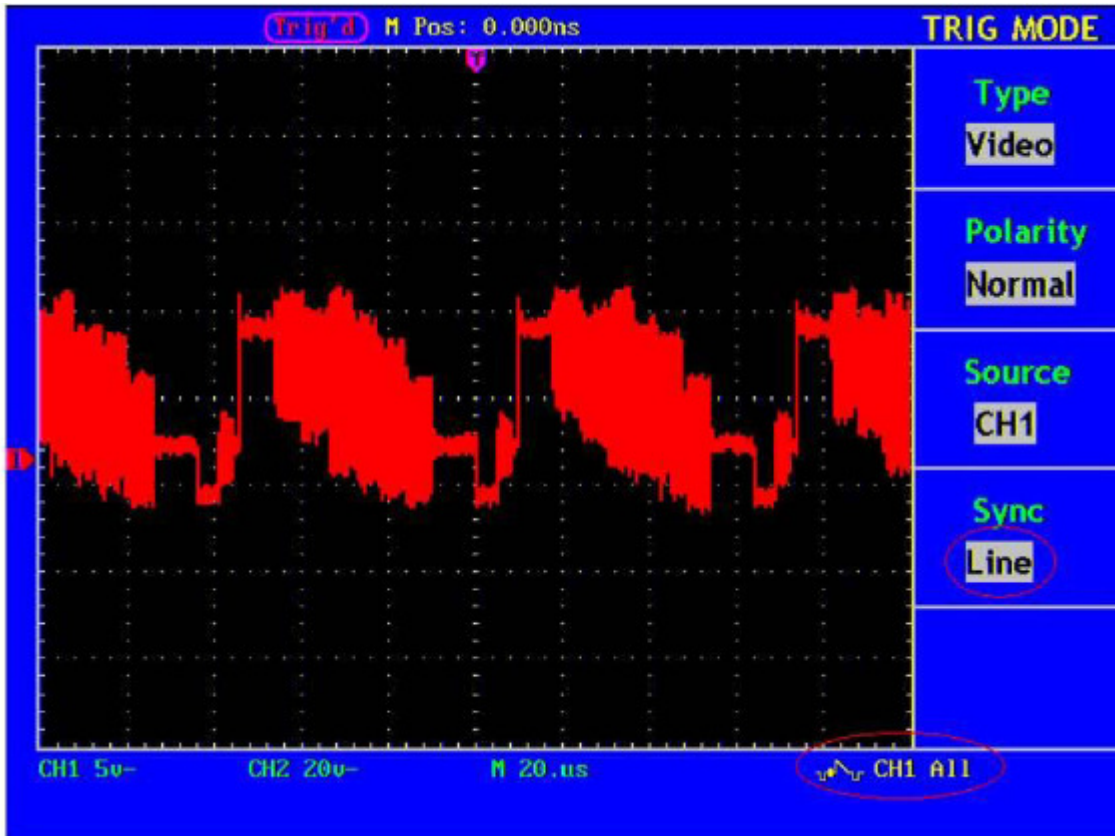

Fig. 35 Wave Form Triggered in the Video Line
6. Press the **F4** menu selection button again and choose **Line** for Slope. The screen display is shown as Fig. 35.